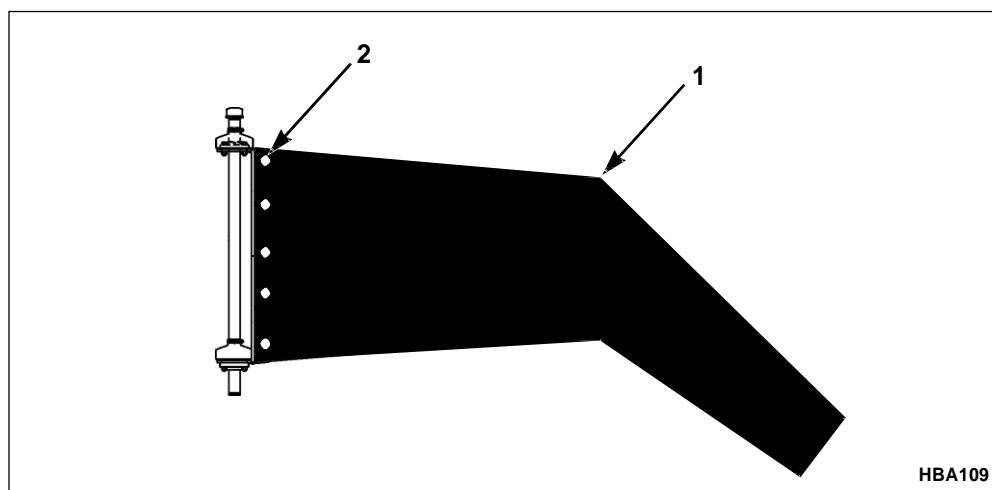

Figure 14. Installing the Wind Sock
2. One end of the sock has eyelets, open this end and slide the sock over the small end of the basket, see Figure 14.
3. Slide the sock over the basket until the entire basket is covered, see Figure 14.